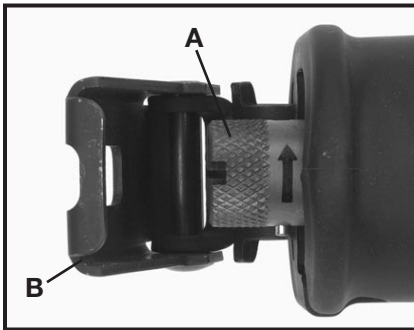

Fig. 1
1. The reciprocating shaft must be fully extended to permit access to the Quick-Change™ blade release collar (A) Fig. 1. If necessary, gently squeeze the trigger switch to move the reciprocating shaft to its outermost position (as shown in Fig. 1).
2. Pivot the guide shoe (B) Fig. 1, forward to improve access to the blade clamp.